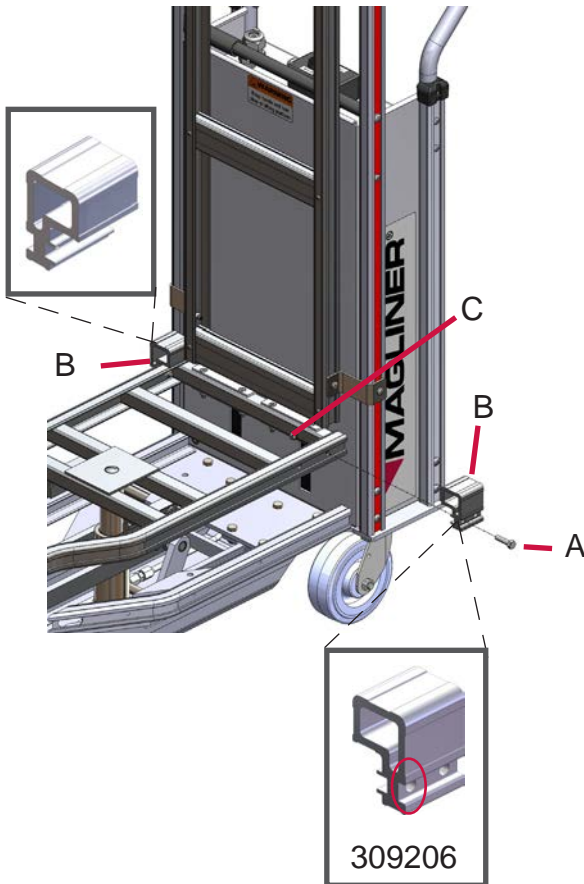

Figure 1
- 4) Locate the front hole of the pallet stop as shown in Figure 1 and insert the screw (A).